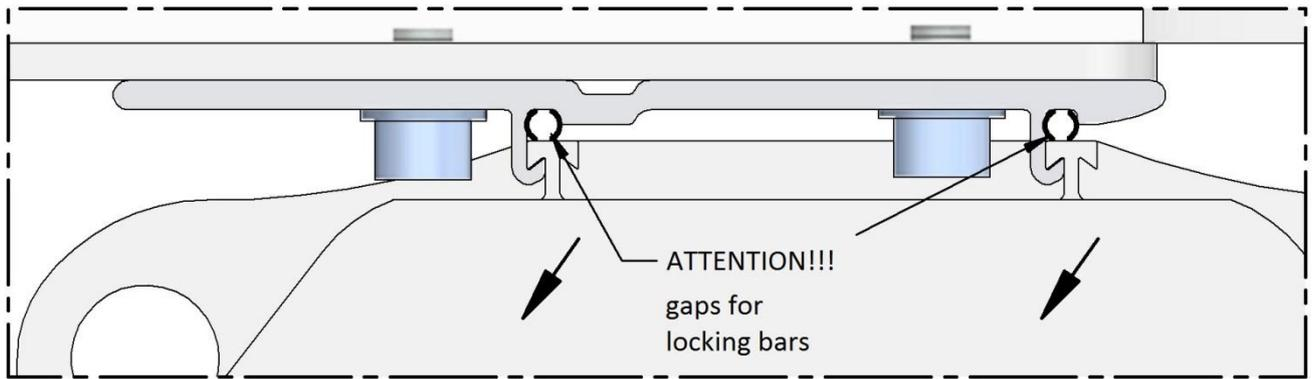

Fig.8
6. Once hung, lock the screen using the locking bars by sliding them into the gap between the holder and the screen. The locking bar gap is shown in figures: 8, 9a and 9b.